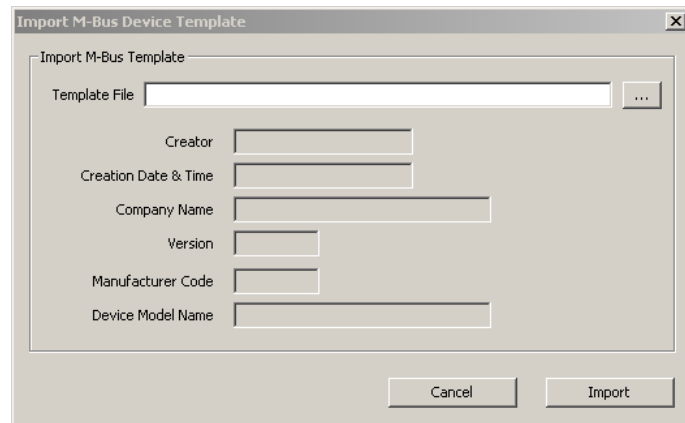

Figure 133 Import M-Bus Device dialog.
3. Click on the **Create From Template** button. This opens the **Import M-Bus Device Template** dialog shown in Figure 133.